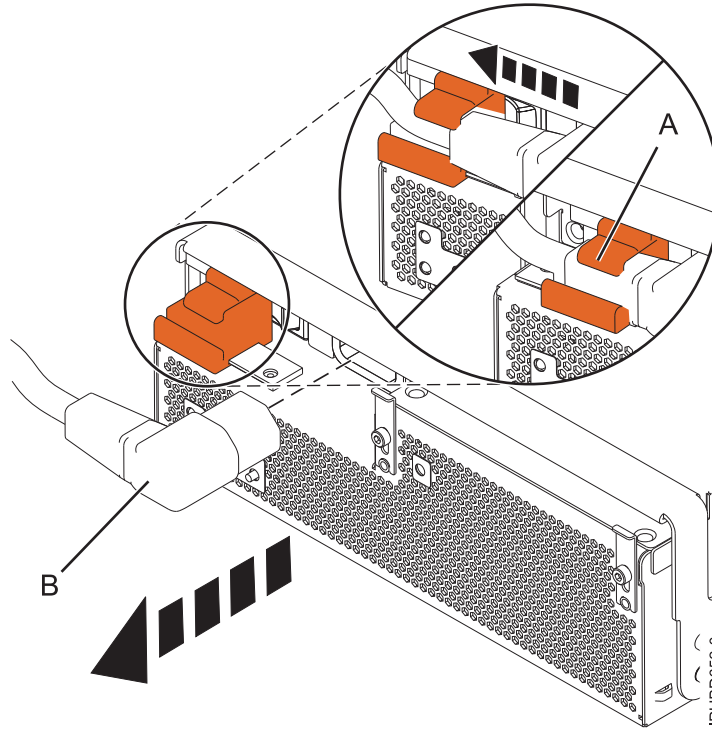

Figure 57. Disconnecting the power cable from the front of an expansion unit
5. For the power supply that you want to remove, slide the cable retention bracket to the open position **(A)**, and then disconnect the power cable **(B)** as shown in Figure 57 on page 73. By moving the bracket to the open position, you turn the power supply off.